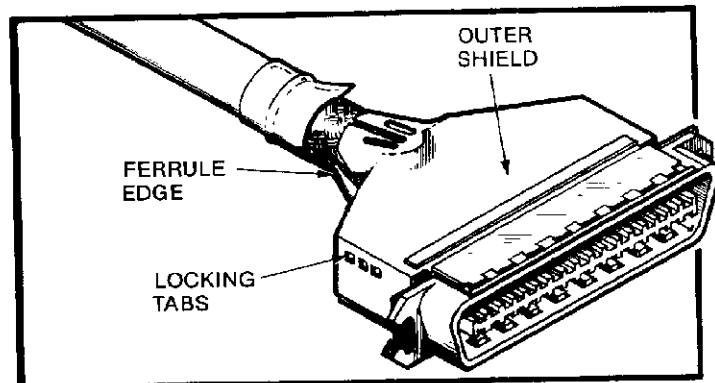

Fig. 7
2. Place outer shield over connector and inner shield. Locate spring fingers at cable exit over braid on inner ferrule. Snap shields together ensuring braid is in contact with spring fingers and no wires are pinched with shields. Locking tabs of inner shield should be visible through windows of outer shield. Parallel jaw pliers may be used to close shields when a large cable is used. See Figure 7.